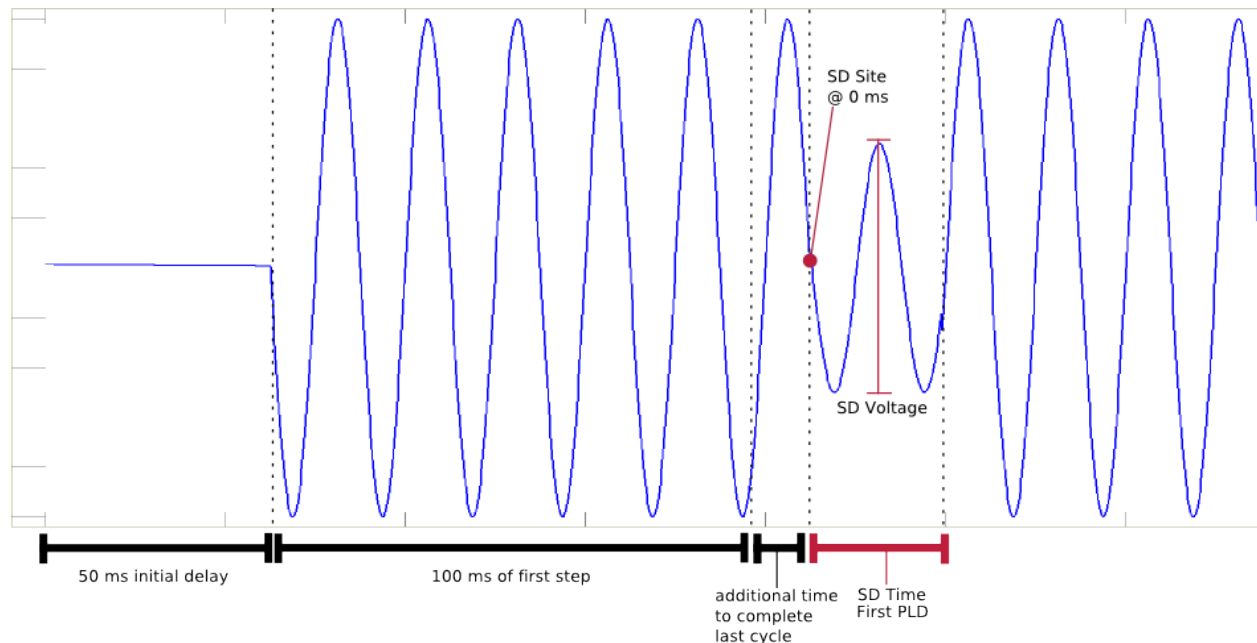

Figure 25 – Initial Start of a List
**SD Site** – This parameter defines the time location (with reference to the beginning of a period of the output) in which to output the PLD. Figure 25 above shows the output of the first step of a list with **SD Site** set to 0.0 ms.